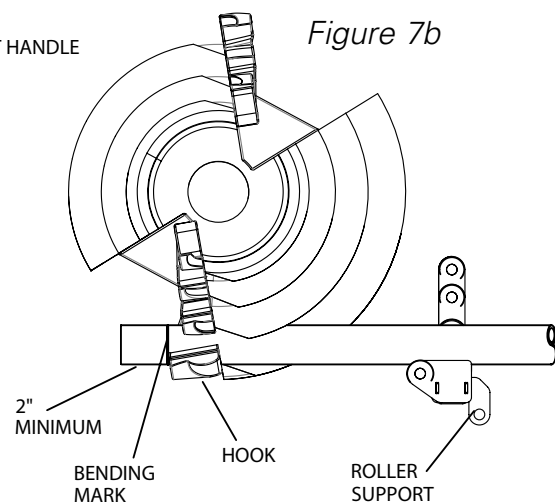

Figure 7b
2. Place the ratchet arm in the up position. This will release the ratchet pawl. Rotate the bending shoe until the conduit hook for the size and type of conduit you are bending is at approximately the 6 o'clock position. (See Figure 7b).
3. Mark the conduit to desired length. Note that a minimum of 2" from the end of the conduit to the front edge of the hook is required to eliminate flattening the end of the conduit. See Figure 7b.
4. Place conduit into the bender. The conduit should slide over the roller support, through the shoe groove and into the hook. The bending mark should be at the front (outside) edge of the hook. See Figure 7b.